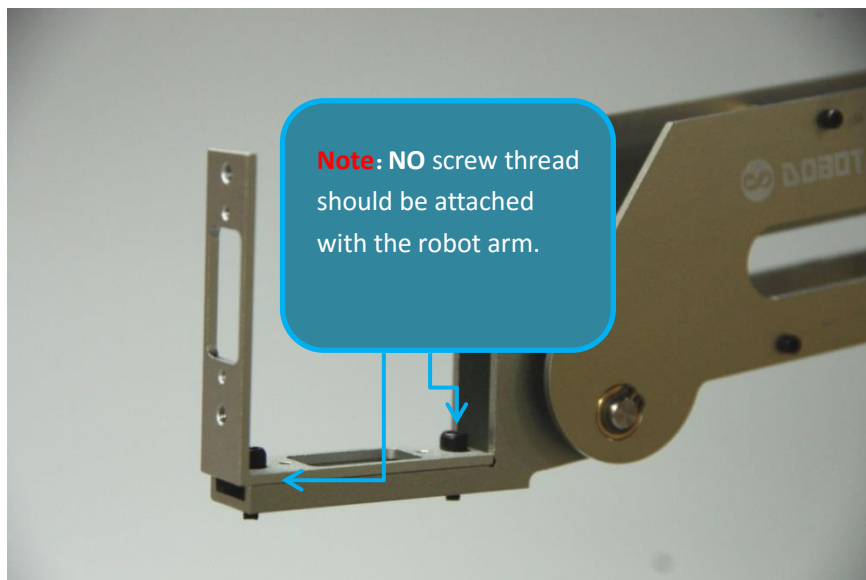

Figure 2.11 90°transformer installation
2. As shown in Figure 2.11 , disassemble the **Rotation Servo**, install the 90°transformer at the end of the robot arm.